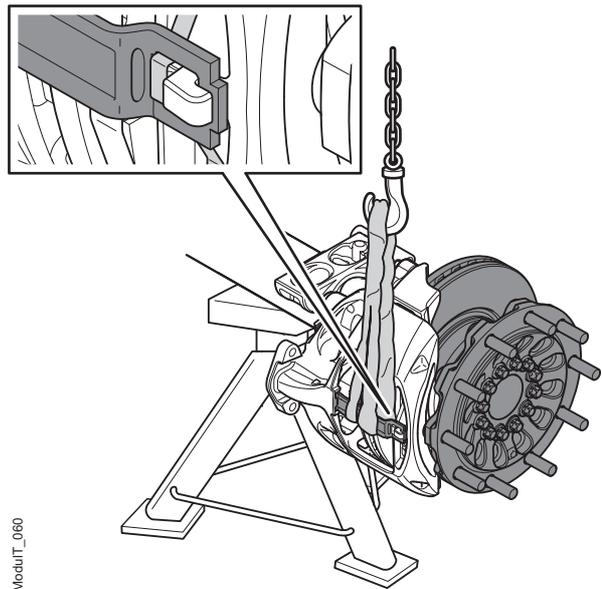

Figure 68. Disc brake removal
1. Refit the old pad retainer by first locating the housing end in the calliper aperture, then locating the pad retainer slot over the calliper latch, finally slide the pad retainer under the calliper latch until the pad retainer spring pops into locking position. See figure 68.